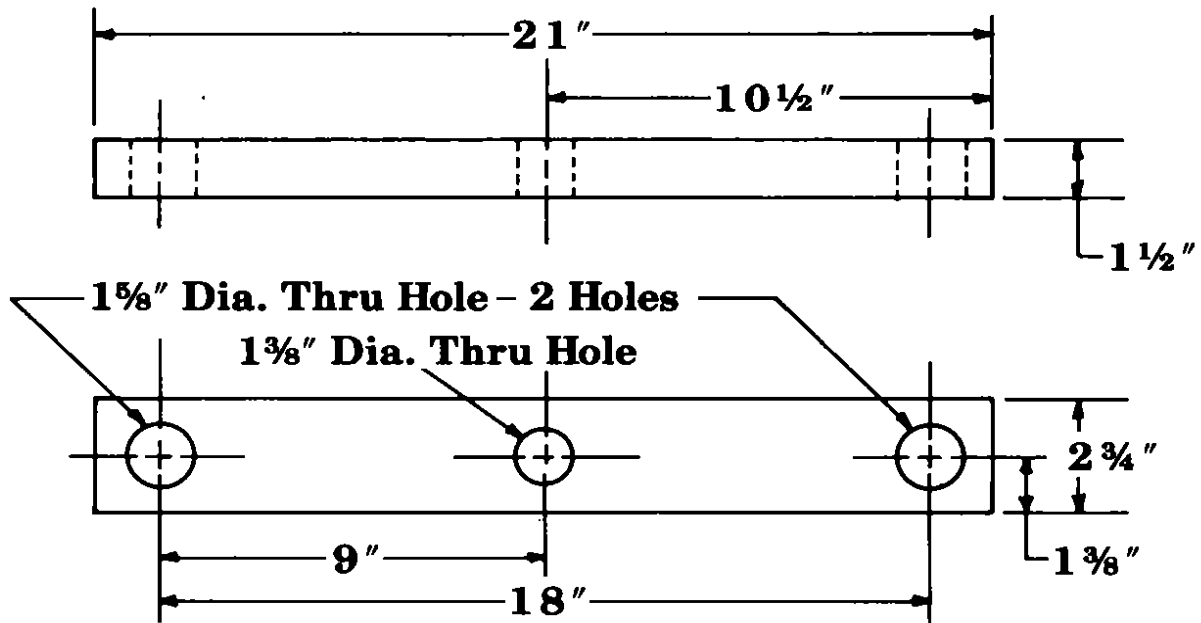

FIGURE 5. Case Tool
22. Refer to figure 5 (Case Tool) and cut a 11f2-inch thick metal plate 21 inches long and 2 $\frac{3}{4}$ inches wide. Drill two 1 $\frac{1}{8}$ -inch holes, 18 inches apart in the metal plate for fastening to case flange. Drill a 1 $\frac{1}{8}$ -inch hole in the center of the metal plate. Install a 1 $\frac{1}{4}$ -7 nut on threaded rod so that nut will be on inside (inlet end) of case tool when installed. Bolt case tool to outlet end of pump case (32) with threaded rod extending through center bore.